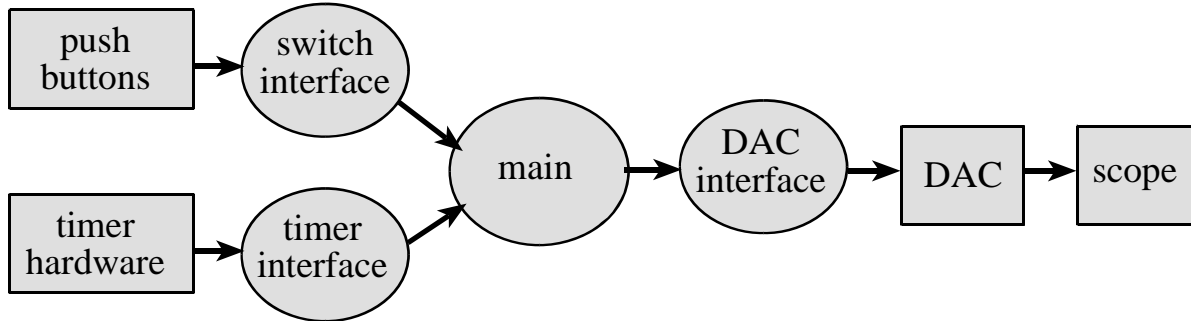

Figure 5.3. Data flows from the memory and the switches to the scope.
A “syntax-error-free” hardcopy listing for the software is required as preparation. The TA will check off your listing at the beginning of the lab period. You are required to do your editing before lab. The debugging will be done during lab. Document clearly the operation of the routines. Figure 5.3 shows the data flow graph of the sine-wave generator.
- If you organized the system different than Figure 5.3 and 5.4, then draw its data flow and call graphs